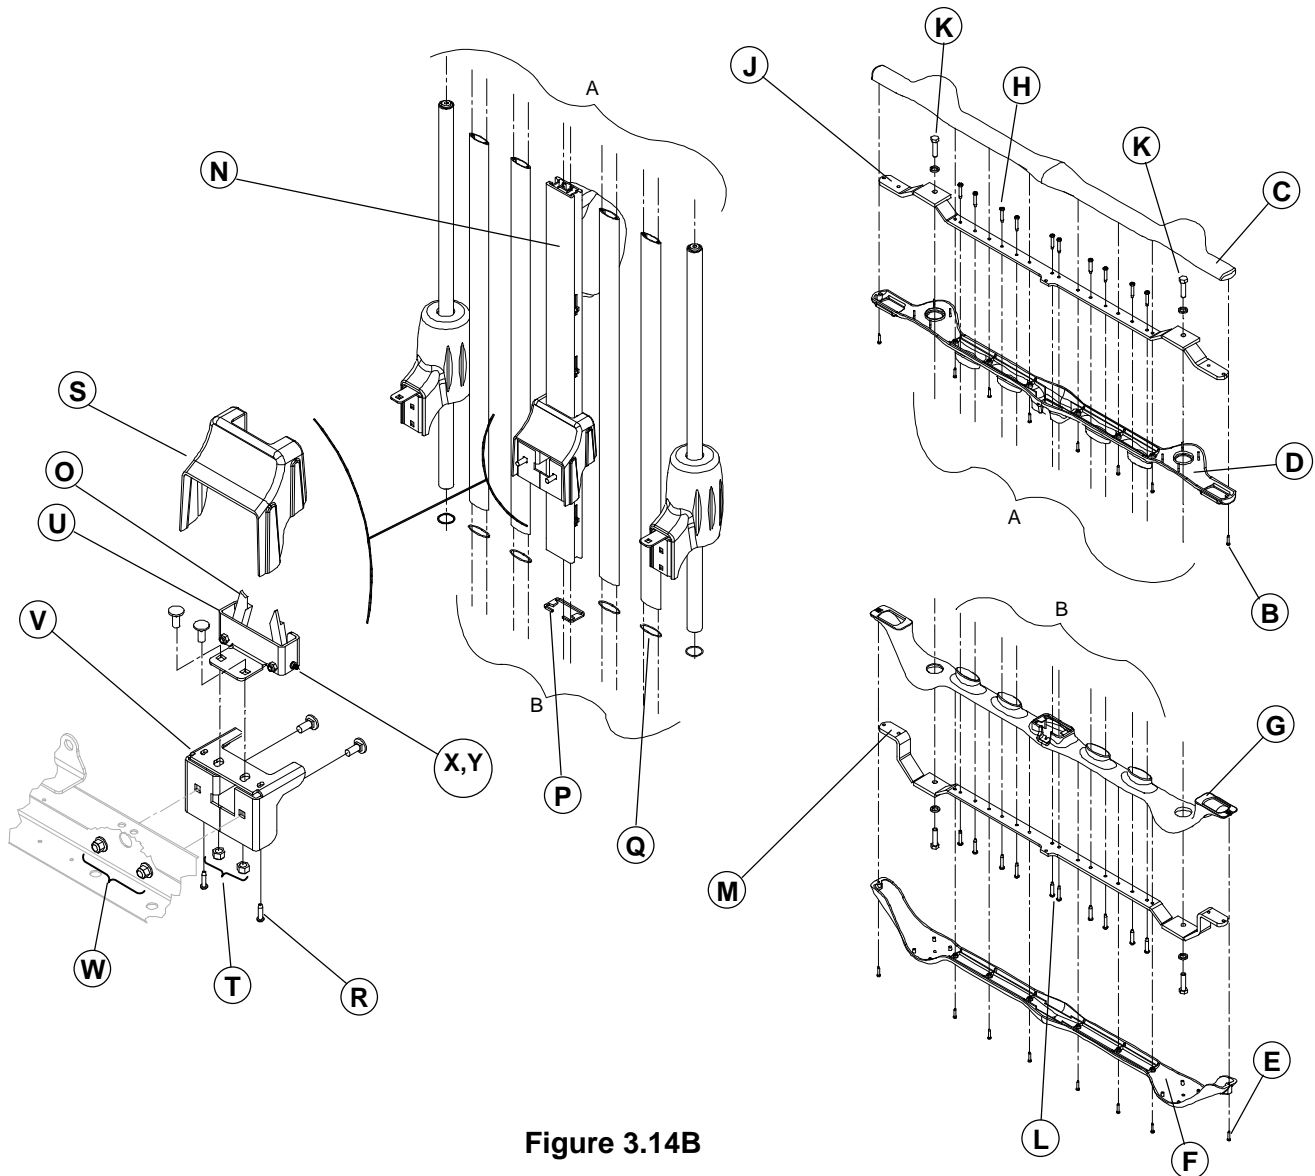

Figure 3.14B
Unless otherwise stated, reference letters contained in the following procedure will refer to figure 3.14B, page 32.
4. Using a Phillips screwdriver, remove the eight screws (E, fig. 3.14B, page 32) holding the rail bottom plastic cover to its upper counterpart. If working on a siderail, open the access doors to reach the last screw on each end of the upper plastic cover. Note that on a siderail with fixed access doors, these two last screws are not present.